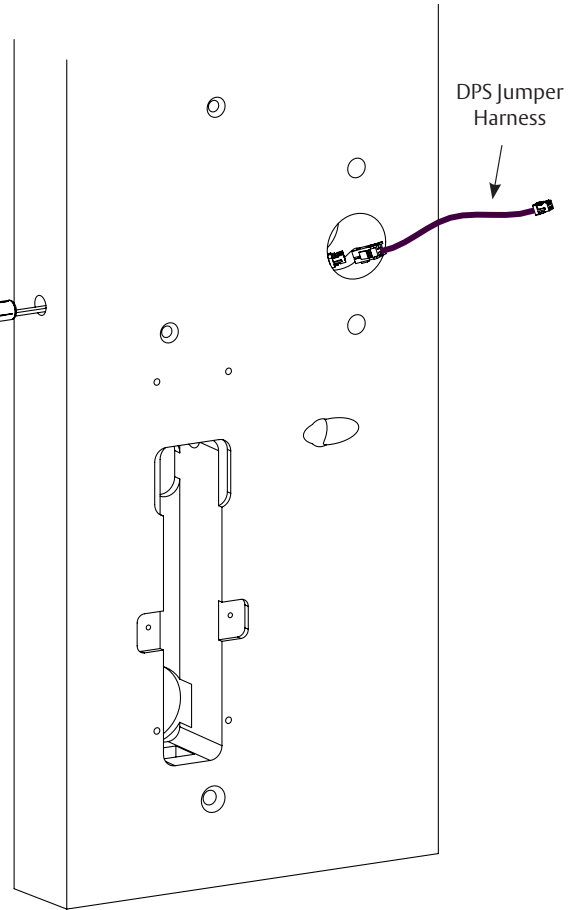

Fig. 3
a. Insert connector end of DPS through raceway on latch edge of door. (Fig. 3)